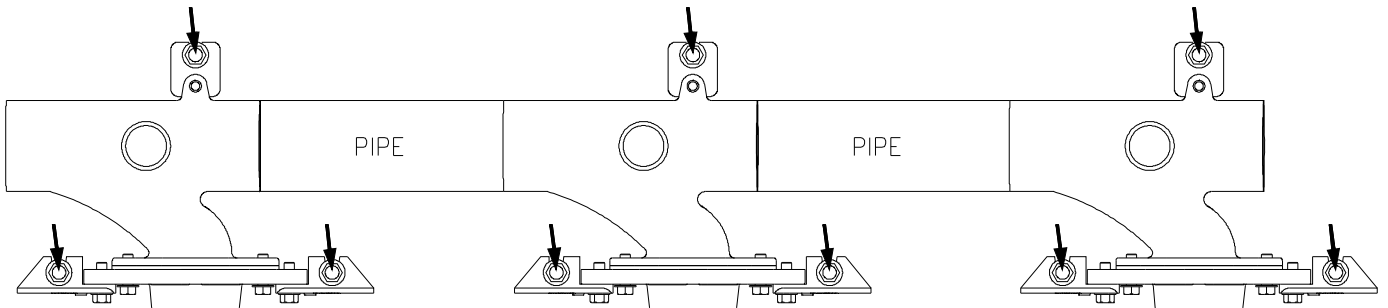

Fig. 10
10. Prep the floor for concrete anchors and place the carrier bank back into position. Lag down the feet using ½” anchors (supplied by others). See Fig. 10